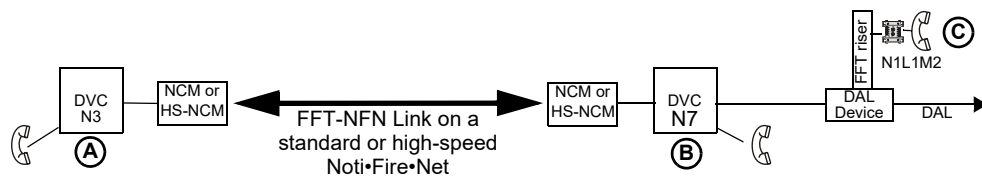

Figure B.2 FFT-NFN Communication Links Example 1
Refer to Figures B.2 and B.3 for this example.
1. A firefighter jacks in at (C). Point 1 rings at (A). Both LEDs flash.
2. The operator at (A) presses the point button, programmed as shown in Figure B.2, turning on the point. The point active LEDs will light steady on, and the yellow LEDs will go off. Communication is established between (C) and the local telephone at (A).
- The N3,N7 portion of the point programming controls the network communication - (A) to (B) in this example.
1. A firefighter jacks in at (C). Point 1 rings at (A). Both LEDs flash (green and yellow at the DVC-KD, point active and yellow at the annunciator).
2. The operator presses Point 1, turning on the point. The point active LEDs will light steady on, and the yellow LEDs will turn off. Communication is established between (C) and the local telephone at (A). If pressing Point 1 activates (C) but does not open the FFT-NFN link, the (A) and (C) point LEDs will continue to flash because the FFT-NFN link is not available.
3. Firefighters jack in at (D) and (E). Points 2 and 3 ring at (A), the point active LEDs light steady and the yellow LEDs flash. The operator at (A) presses the Point 2 and 3 buttons (either the Point 2 and 3 DVC-KD buttons or the Point 2 and 3 ACS annunciator buttons), programmed as shown in Figure B.2, turning on the points. The yellow LEDs will turn off. Communication is established between the field telephones at (C), (D) and (E) and the local telephone at (A). (A) through (E) are now in communication.